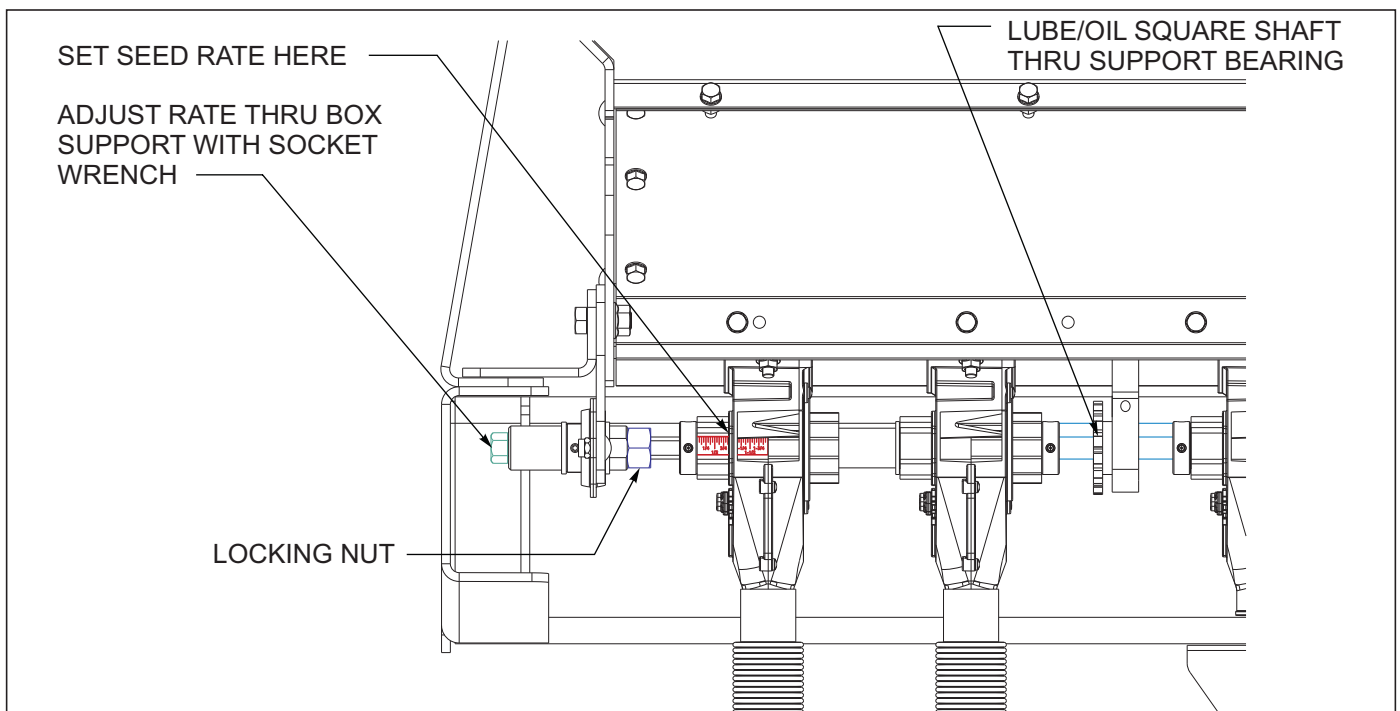

Figure 4-16: Seed Rate Adjustment
2. The seeding rate is adjusted for each section with the threaded seed rate adjustment at one end of each drill section. The end seed meter next to the adjustment has an indicating scale for reference. Read the scale along the **OUTSIDE EDGE** of the seed meter to determine the setting. The seeding rate should be set the same for all sections *See Figure 4-16.*
5. Start with the end meter(s) next to the threaded adjustment *See Figure 4-16*. Slide the feed roll and cut-off to the right until the indicator reads zero on the end meter. Remove any remaining slack between the spacers, washers, feed rolls etc. and secure the lock collars on each end of that group of meters. Continue to work across the drill section sliding the meter feed rolls to the right, removing any slack, and securing the lock collars for each group of meters.